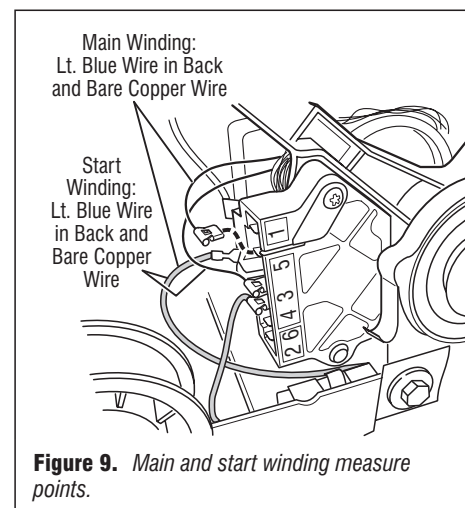

Figure 9. Main and start winding measure points.
6. Remove the bare copper wire terminal from pin 5 of black drive motor switch. See figure 9.
7. Using figure 9, check for the resistance values of the motor's Main and Start winding coils as shown in the following table.